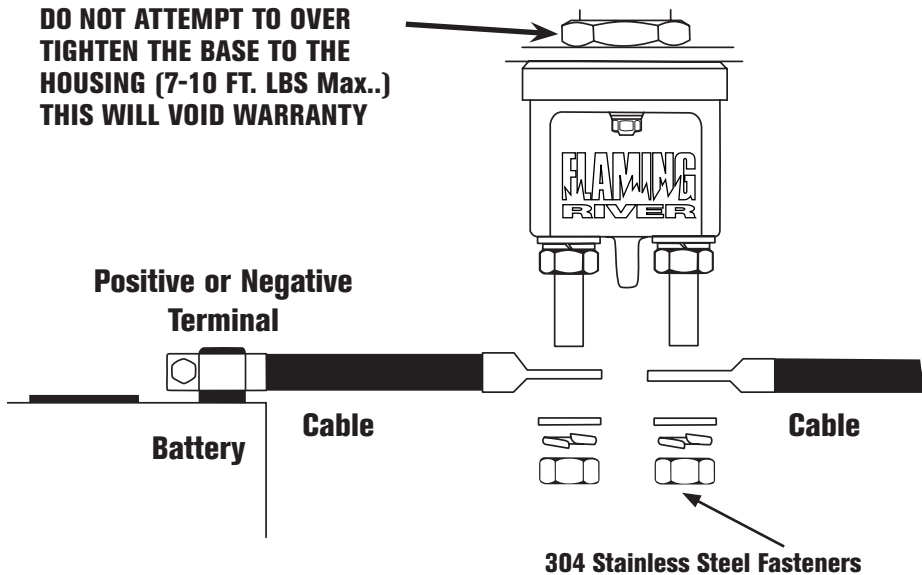

Figure 3
2. It may be necessary to discard this cable and replace it with two (2) separate cables. The length of these cables will equal the length to the switch as shown in Figure 3.
3. Attach the two (2) cable ends to the terminal studs as shown in the illustration in Figure 3. Tighten the hex nuts until the lock washers flatten (11-13 ft. lbs.) Do Not Over Tighten! Make sure the cables on the switch are not touching. Terminal covers are recommended.